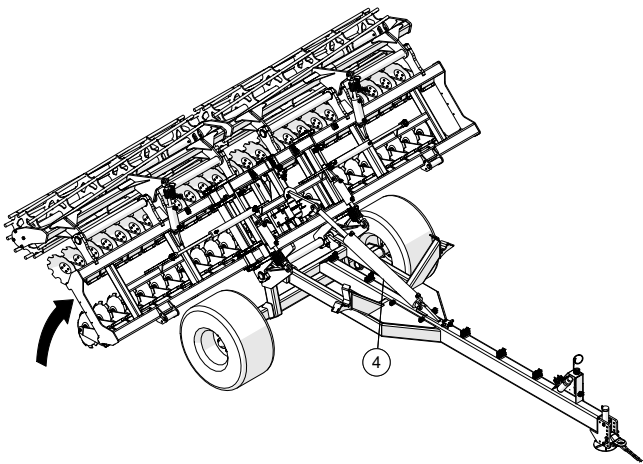

Figure 13. Lifting Machine
3. Retract the transport cylinders (**#4**) to fully raise the frame (center and wings) completely off the ground into the raised position. See **Figure 13**.